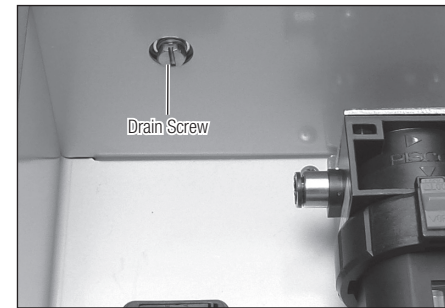

Fig. 3
- CAUTION**  • Before filling with Maintenance Oil, be sure that the Drain Screw on the underside of the Unit is tightened securely. Oil may leak if the screw is loose (Fig. 3).